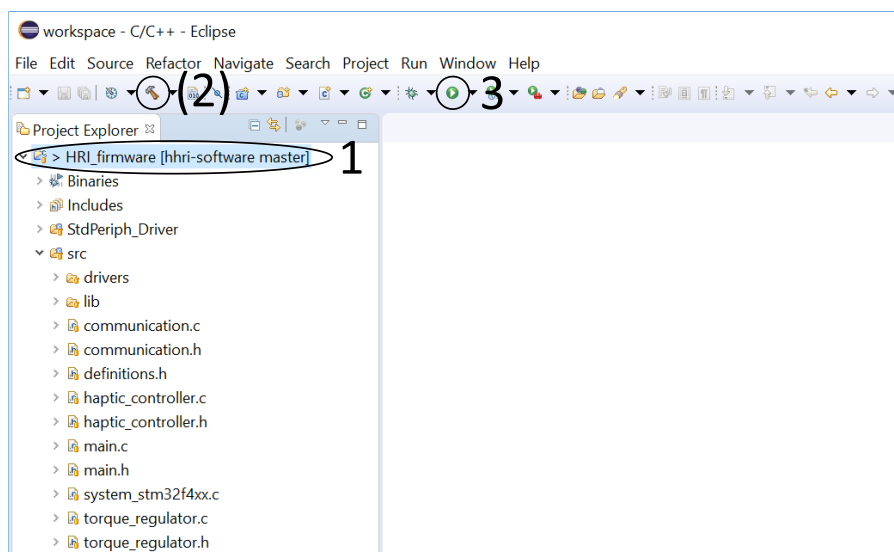

Figure 1: board programming sequence on eclipse
- In System Workbench, select the project in the tree on the left (Figure 1 - 1), then compile the code using Project > Build all (or press , Figure 1 - 2). This step is optional.
- Then, you can load the program on the board by using Run > Run (or press , Figure 1 - 3) and selecting “Ac6 STM32 C/C++ Application”.